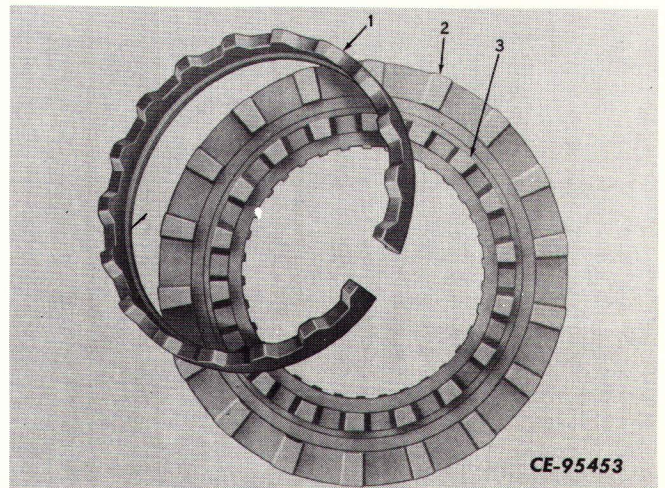

Figure 6-65
If rotatable holdout cam (1, Fig. 6-65) must be removed from driven clutch (2), use a snap ring pliers to expand and remove cam. The fixed cam (3) is welded to the driven clutch. If weld is broken, it will be possible to rotate the cam ring by lightly tapping the cams. If clutch teeth or cam teeth are chipped or worn excessively, the driven clutch assembly must be replaced.